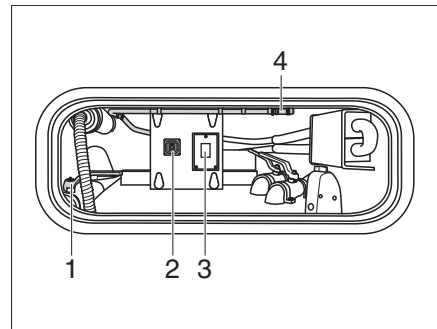

Fig. 358 Flushing the cassette of the macerator toilet (view in the storage box)
- Open the drain cock (Fig. 358,1).
- Press the switch (Fig. 358,3).
- Operate switch (Fig. 358,2) for the drainage pump.
- Remove the hose for tank cleaning (Fig. 358,4) in the storage box and connect it to a water connection.
- Remove the water connection after flushing and store the hose for tank cleaning (Fig. 358,4).
- Close the drain cock (Fig. 358,1).